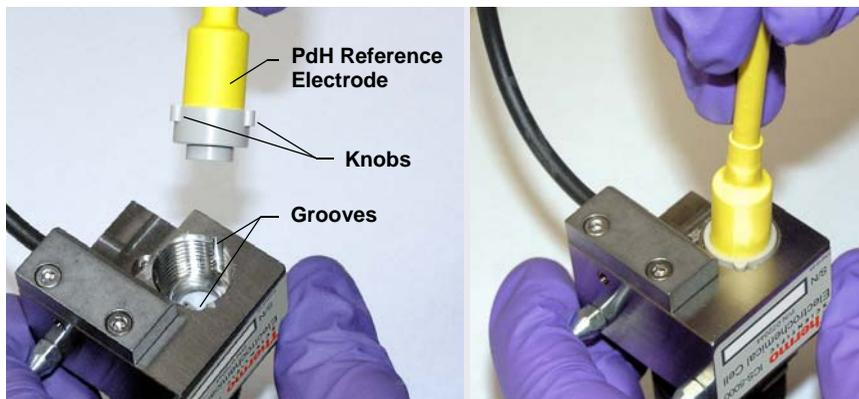

Figure B-17. Inserting the PdH Reference Electrode Fitting into the Reference Electrode Well
4. Orient the fitting on the end of the PdH reference electrode so that the knobs on the fitting align with the grooves in the reference electrode well (see Figure B-17).